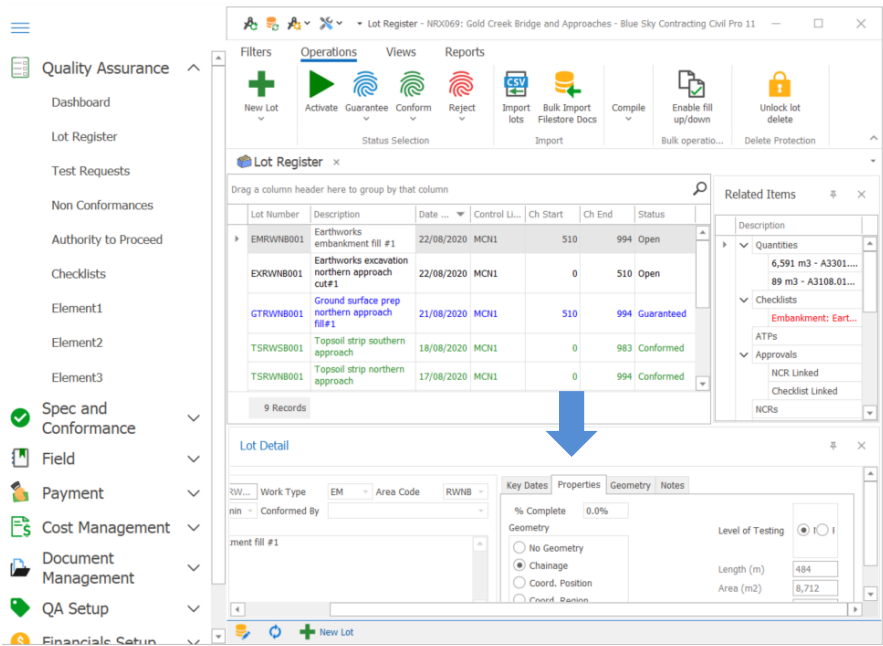

Figure 111 % Complete in the Properties Tab of the Lot Details Screen
- 1. (slow for multiple lots) Open the lot detail view (double click the lot) and type in the % complete in the Properties tab (Figure 111). Click through each lot updating the % complete.